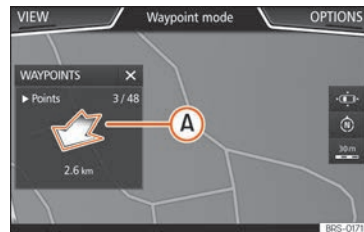

Fig. 234 Offroad route guidance mode
- The general direction of travel is indicated straight ahead by direction arrows in the Infotainment System pop-up window »» Fig. 234 **A**.